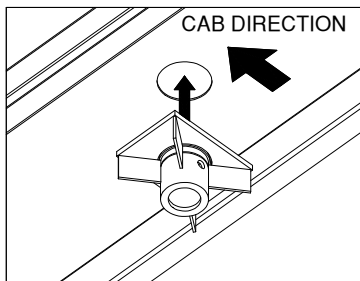
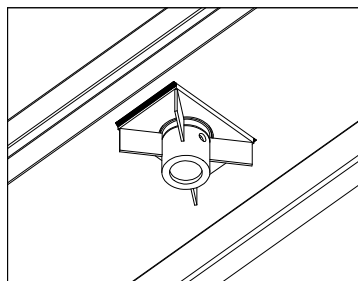

Figure 2
Figure 3
2. **Install the socket.** Fit the socket into the four-inch hole as shown in Figure 2. Position the 1/2" plate so it is flat against the floor of the bed. Weld the two sides of the 1/2" plate that do not have the holes for the latch pin handle, see Figure 3.